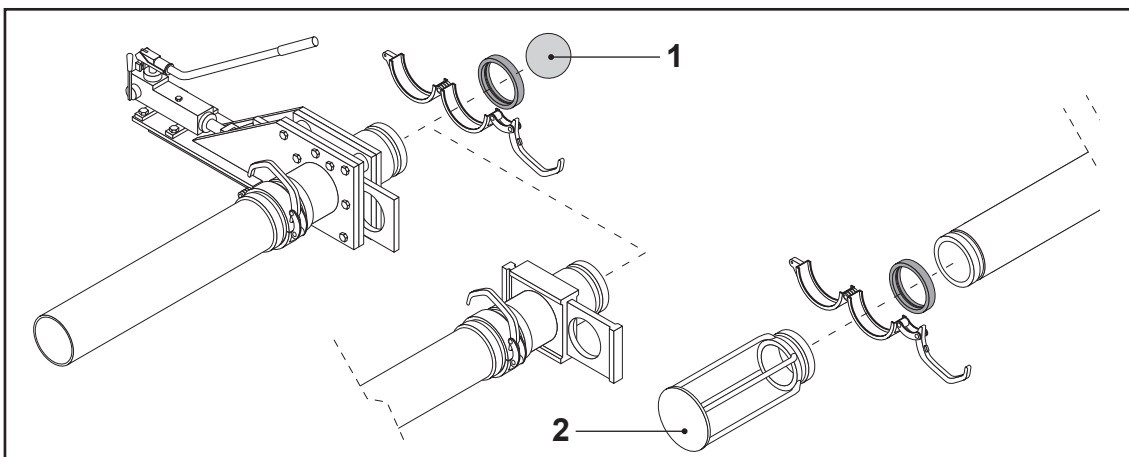

FIG.39
- Soak a pipe sponge (FIG. 39-REF. 1) and put it inside the pipe.
- Connect the basket (FIG. 39-REF. 2) designed to catch the sponge to the end of the hose using a Victaulic coupling complete with rubber gasket.